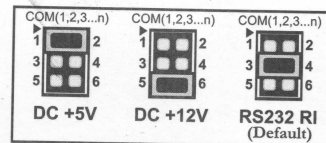

Figure 1
1. For some models which came with jumper blocks for selecting the functionality of the 9th pin of each serial port. Put the jumper cap on the correct location to meet the requirement of your serial device. Refer to **Figure 1** for details: